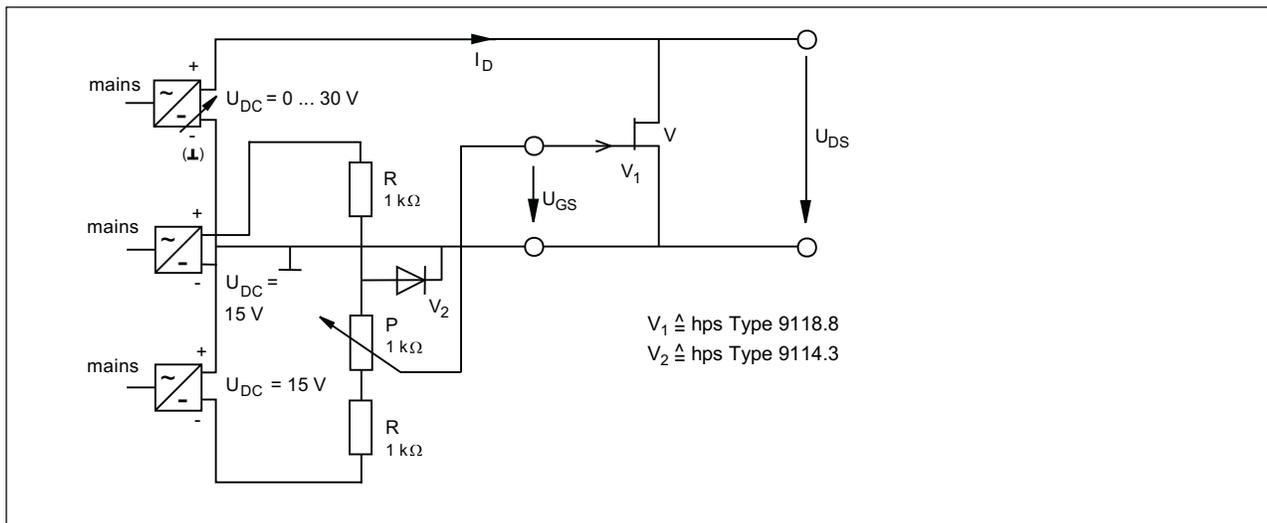

Fig. 5.4.2.1
- Set up the circuit according to Fig. 5.4.2.1. Set the gate/source voltage  $U_{GS}$  and the drain/source voltage  $U_{DS}$  as shown in Table 5.4.2.1 and measure the corresponding drain current  $I_D$  with the multimeter.